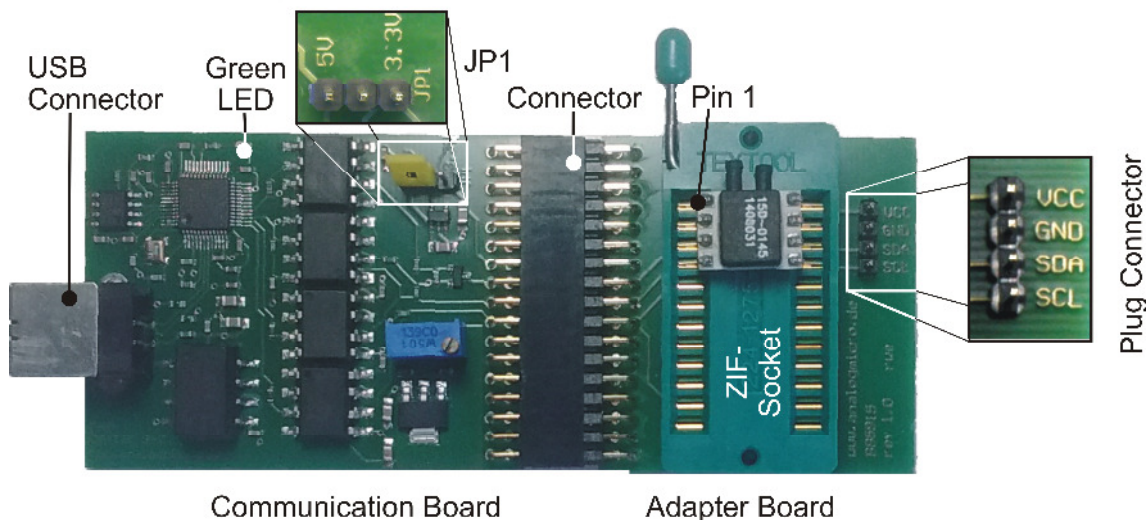

Figure 1: USB Starter Kit AMS 6915 with connected sensor.
The starter kit hardware consists of two printed circuit boards: the communication board *CB-I2C* and the adapter board *BB5915/BB6915* with a ZIF-socket to connect one AMS 6915 sensor. Figure 1 shows the assembled kit with mounted sensor.
The connection between *CB-I2C* and *BB5915/BB6915* is realised by a 34 pin connector. A zero injection force (ZIF) socket on the *BB5915/BB6915* allows easy mounting and exchanging of an AMS 6915 pressure sensor. Pin 1 of the sensor is at the upper left edge of the ZIF-Socket (see Figure 1).
The sensor voltage can be chosen between 3.3V and 5V by jumper JP1 on *CB-I2C* (see Figure 1); for standard products of the AMS 6915 series JP1 is connected to 3.3V. Further, for exchanging the mounted AMS 6915 the sensor voltage supply can be turned off by removing JP1.
First, the adapter board *BB5915/BB6915* for AMS 6915 sensor and the communication board *CB-I2C* are connected together by the 34 pin connector. Then, the AMS 6915 sensor has to be mounted into the ZIF socket on *BB5915/BB6915* (orientation of pin 1: see Figure 1). The sensor supply voltage has to be set to 3.3 V with JP1 on the communication board *CB-I2C* (for standard AMS 6915 pressure sensors).
4. The green LED on the communication board flashes up, when the board is detected by the PC and the drivers are loaded successfully (see Figure 1).